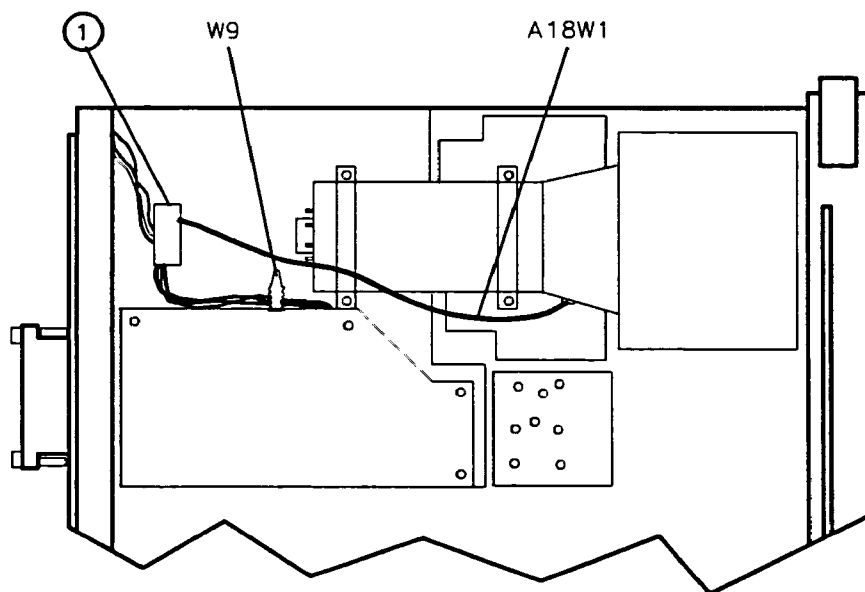

Figure 3-5. Installing the CRT and Front-Frame Assemblies
20. Pull the cable tie (1) to free W9. See Figure 3-5. Gently pry W9, the CRT cable, from the end of the CRT assembly.